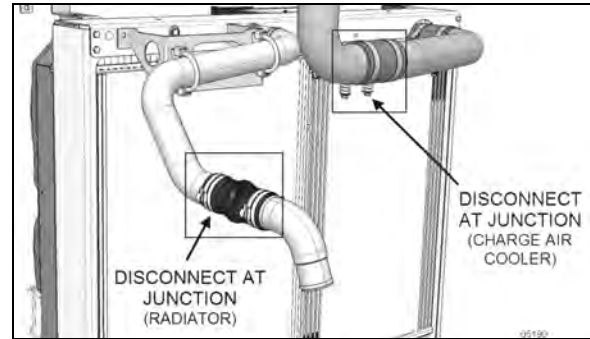

FIGURE 31: RADIATOR & CAC UPPER CONNECTION
8. Disconnect the upper radiator pipe *at the pipe junction* between the radiator and the engine (Figure 31).